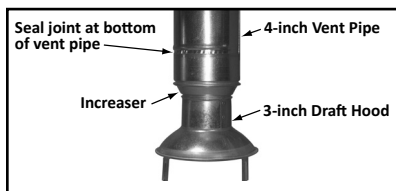

Figure 34.
- Compare the size of your draft hood opening to the size of the vent pipe. If the vent pipe has a wider diameter than the draft hood, use an adapter to connect them. See Figure 34 on page 28.